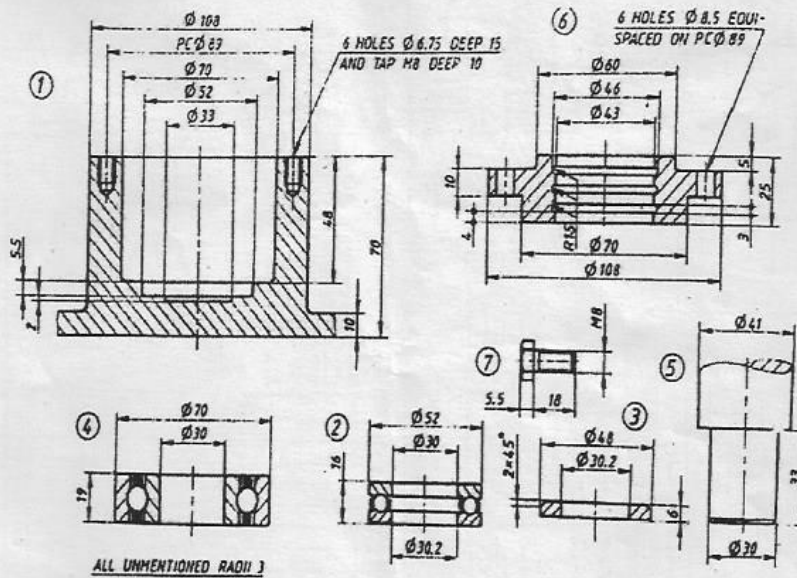

Fig.5
16. (a) The details of a Footstep Ball Bearing are shown in Fig. 5. Assemble the bearing and draw the front sectional view. Show only important dimensions on the assembly drawing.